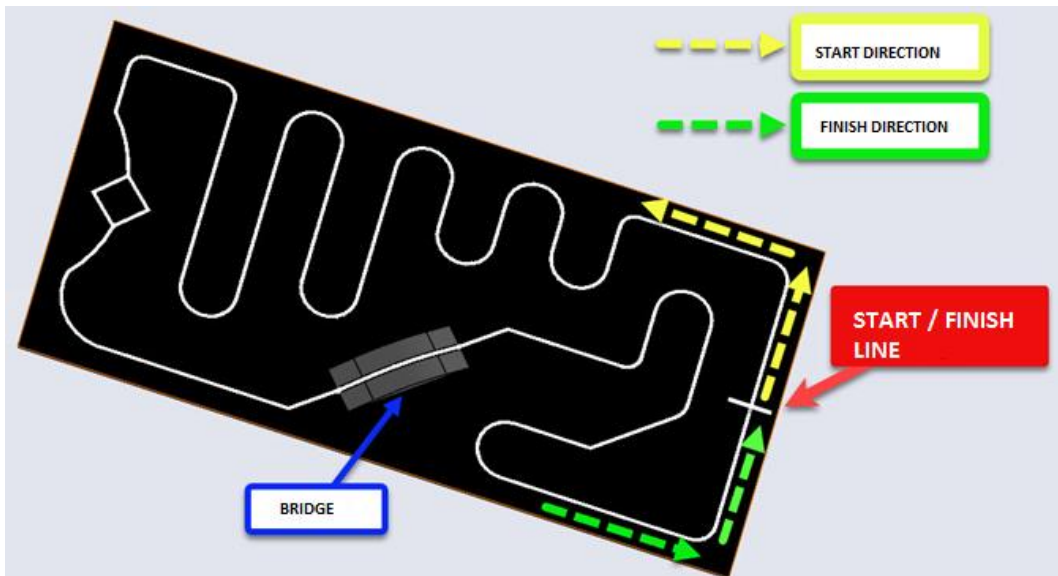

Figure 4 Direction of robot movement on the track
10. The robots must move on the track in the direction of movement shown in Figure 4.